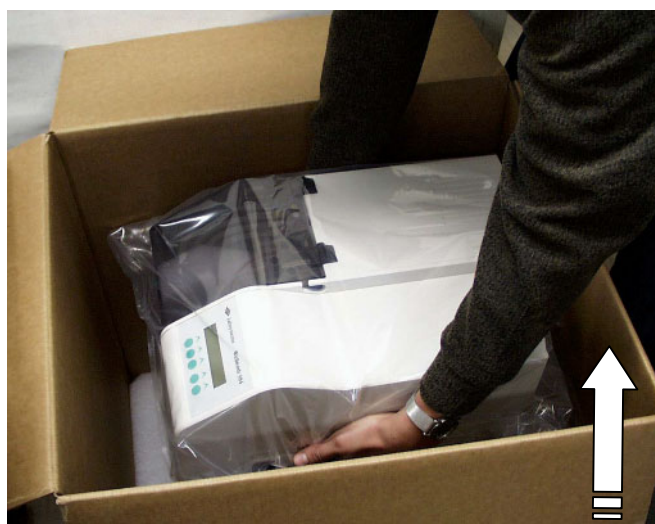

Fig. 5.3 Lifting the Wellwash 384 washer
3. Place your hands in the two slots of the lower foam, hold the washer and lift (*Fig. 5.3*).